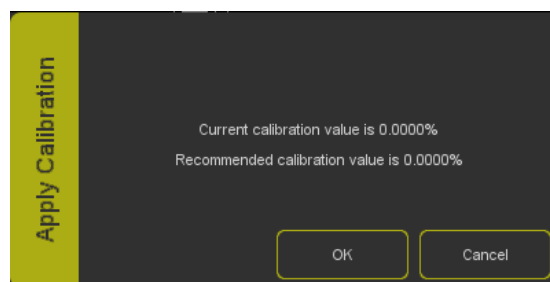

Figure 9.4: Apply calibration value
5. Apply the recommended calibration value in the dialog (figure 9.4)